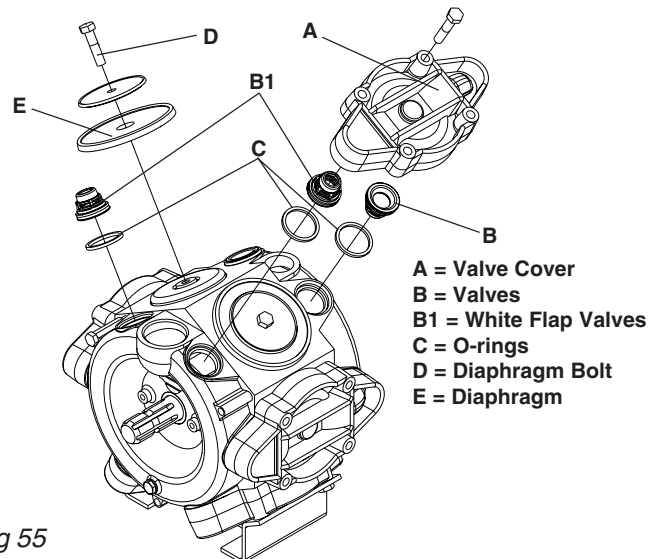

Fig 55
- 1 Remove the valve covers (A Fig 55). Before changing the valves (B Fig 55 & B1 Fig 55) note their orientation so they are replaced correctly.
- 2 The two white flap valves (B1 Fig 55) must be placed in the valve openings as shown. It is recommended to use new O-rings (C Fig 55) when changing or checking the valves.
- 1 With the valve covers removed as explained above, remove the diaphragm bolts (D Fig 55).
- 2 The diaphragms (E Fig 55) may now be changed.